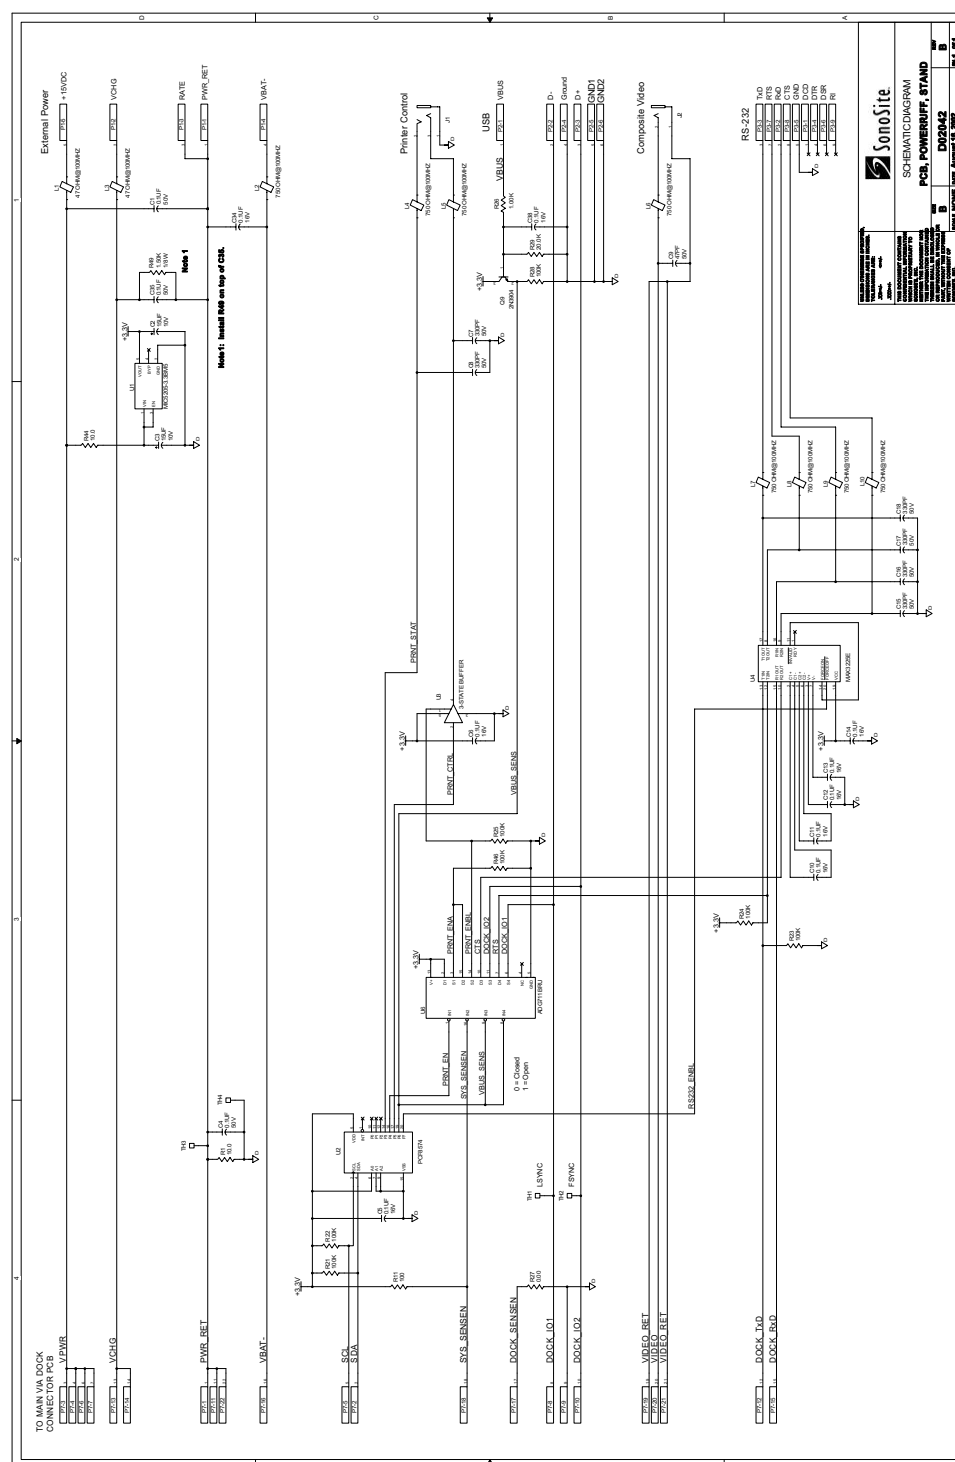

Figure 7.23 Theory of Operation Schematic
- 2 Schematic diagram. See Figure 7.23.